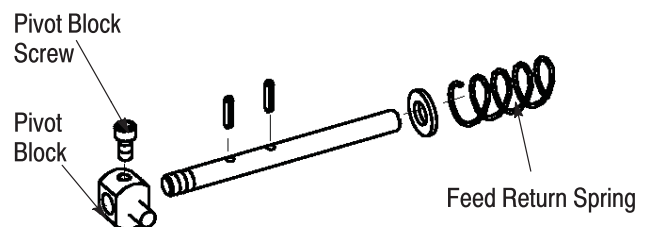

Figure 4
3. Remove the original adjustment feed rod screw from the applicator. The feed return spring, pivot block, and pivot block screw will be reused. See Figure 4.